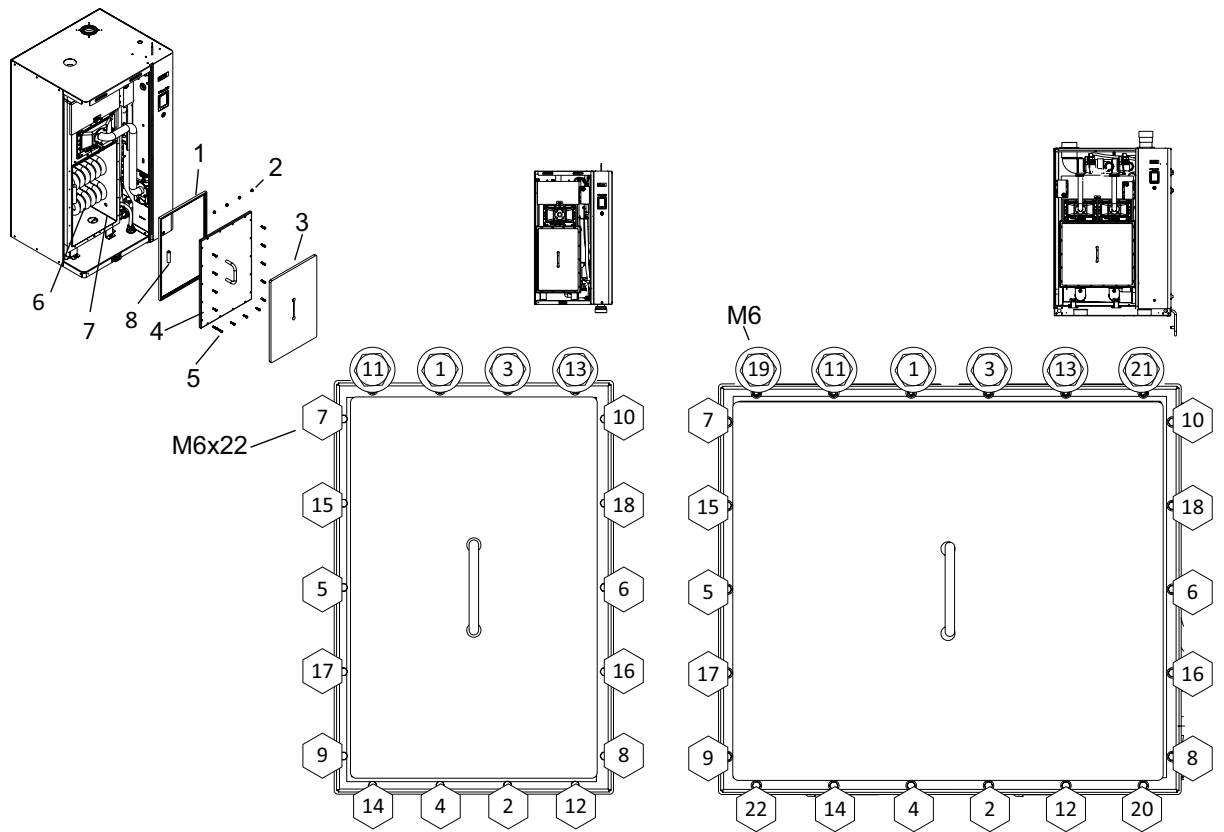

Figure 10: Tank Door Torque Sequence
Clean the inside of the tank, the outside of the primary heat-exchanger coils and the drain fitting as follows. Refer to Figure 10 on page 63. It is not necessary to remove the tank from the unit in order to clean it.
8. Install a new tank gasket and secure the tank cover to the tank. **Note:** The order of torquing the bolts for the tank cover are shown in the hexagonal symbols in Figure 10. *Tighten bolts with your fingers and torque at the end of assembly.*